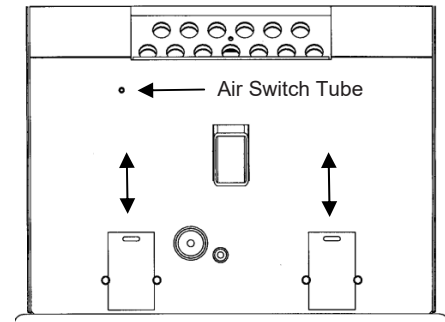

FIGURE 18
- b. Interior Chambers - The two ash doors in the firebox in the Breckwell Big E can be removed for periodic cleaning (refer to Figure 18). These doors allow access to the chamber behind the firebox.